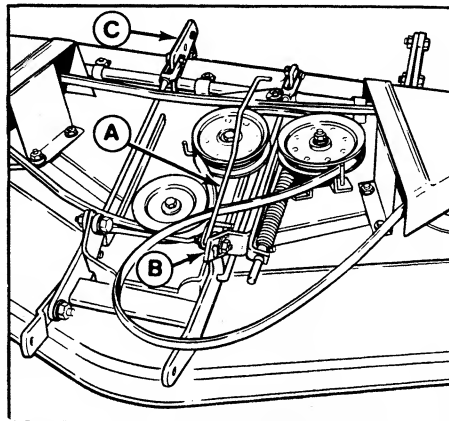
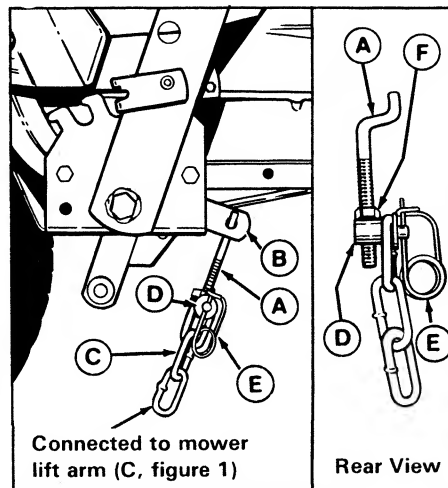

Figure 1. PTO Rod
Figure 2 Lift Chain
2. Notice that one end of the PTO rod (A, figure 1) does not have a drilled hole. Insert this end into the mower PTO arm (B) and work around until rod (A) appears as in figure 1.
that the mower lift arm (C, figure 1) is under the tractor lift arm (B, figure 2).
6. Connect the chain (C, figure 2) to the trunnion (D) with clip (E). For electric lift, use only three links of chain.
Connected to mower lift arm (C, figure 1)